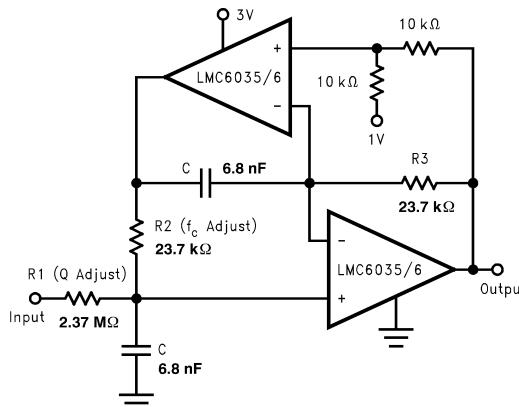

Figure 49. 2 Pole, 1kHz Active, Bandpass Filter
The dual amplifier bandpass (DABP) filter features the ability to independently adjust f_c and Q. In most other bandpass topologies, the f_c and Q adjustments interact with each other. The DABP filter also offers both low sensitivity to component values and high Qs. The following application of Figure 49, provides a 1kHz center frequency and a Q of 100.
1. First choose a center frequency (f_c). Figure 49 represents component values that were obtained from the following computation for a center frequency of 1kHz. $R2 = R3 = 1/(2\pi f_c C)$ Given: $f_c = 1\text{kHz}$ and C (chosen) = **6.8nF** $R2 = R3 = 1/(2\pi \times 3\text{kHz} \times 6.8\text{nF}) = 23.4\text{k}\Omega$